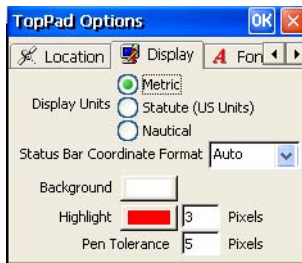

Figure 3-36. TopPAD Options – Display
- *Display Units* under the *Display* page are applicable only to the scale bar, the Geography page of the Feature Properties dialog box and the measure, freehand measure, and radial measure results displayed on the status bar and the Measurement information dialog box (Figure 3-36). All other TopPAD dialogs use *Meters* as the display unit.